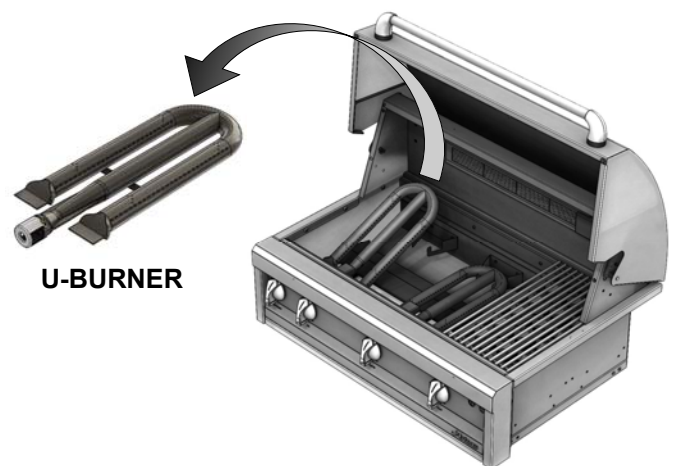

Figure 2
- Lift and remove the U-BURNER out of the grill. The U-BURNER is simply resting between the gas valve and the rear bracket located in the back wall. (see figure 2)